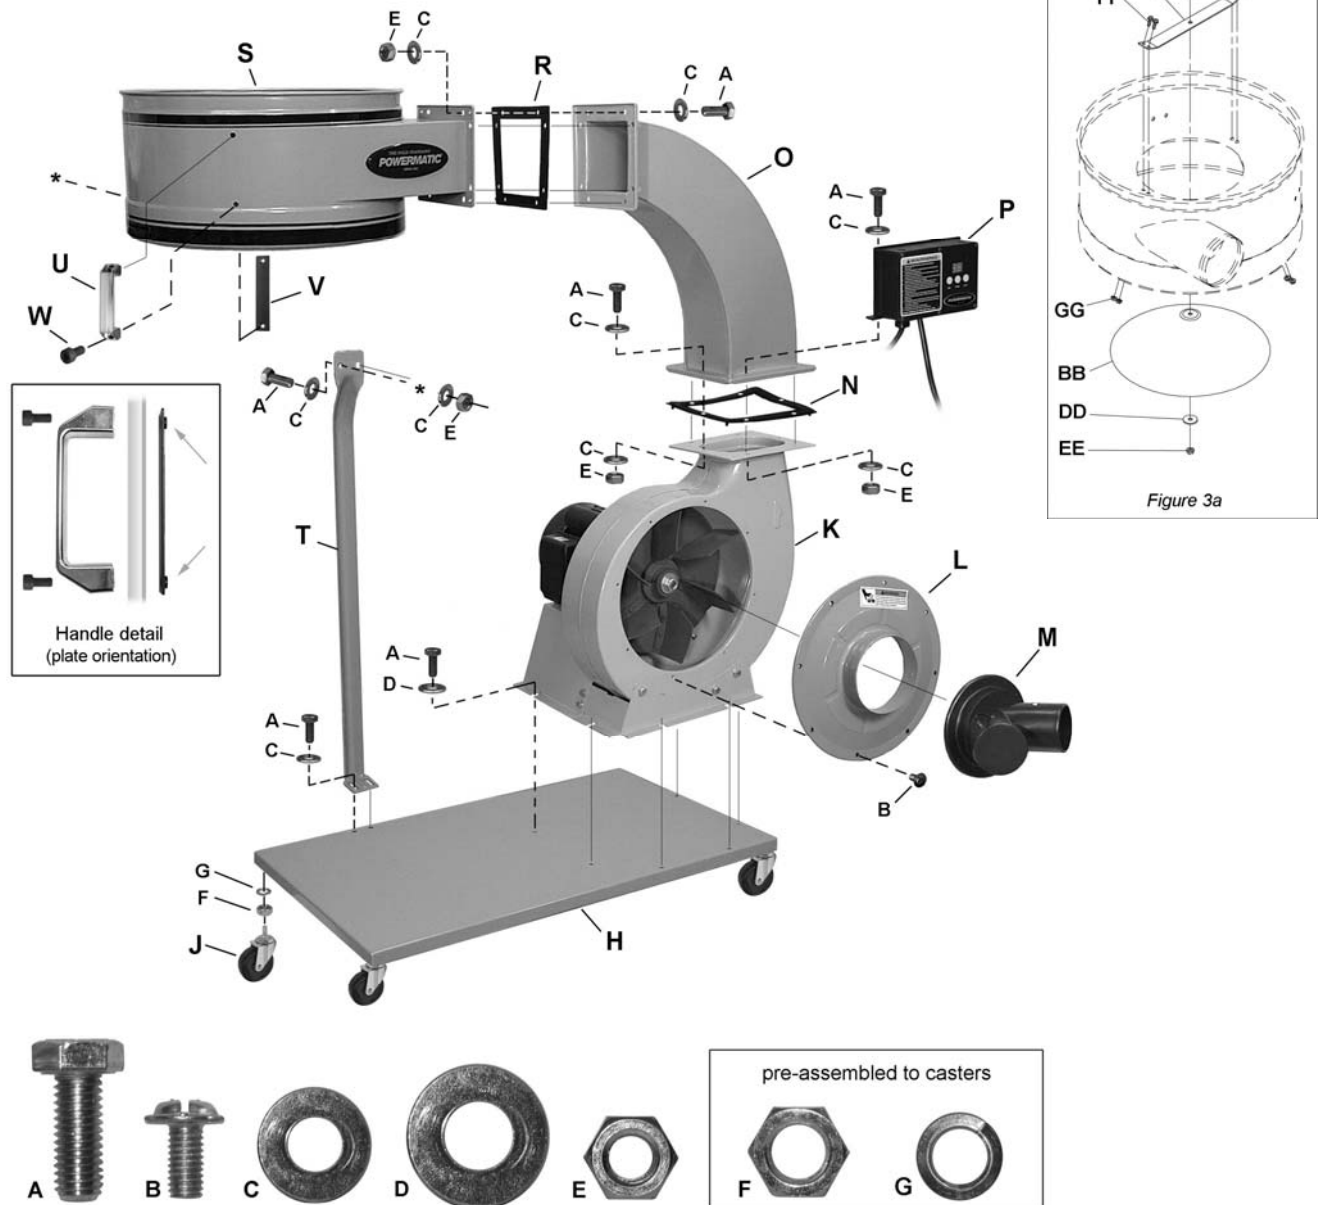

Figure 3: Assembly and hardware identification
Refer to Figure 3 to identify items H–W.
All instructions on this page refer to Figure 3.
Note: Refer to Figure 3 to make sure that the connector tube is facing the proper direction.
1. Remove the *plate* (V) from the *handle* (U) by loosening the two *socket head cap screws* (W) with a 6mm hex wrench.
2. Install *handle* (U) to the holes in the *collector housing* (S) by inserting the socket head cap screws through the handle, the collector housing, and into the plate on the opposite side. Tighten the screws.
Note: Make sure the *plate* (V) is oriented properly, as shown in the Detail in Figure 3: The protrusions on the plate should face away from the handle.